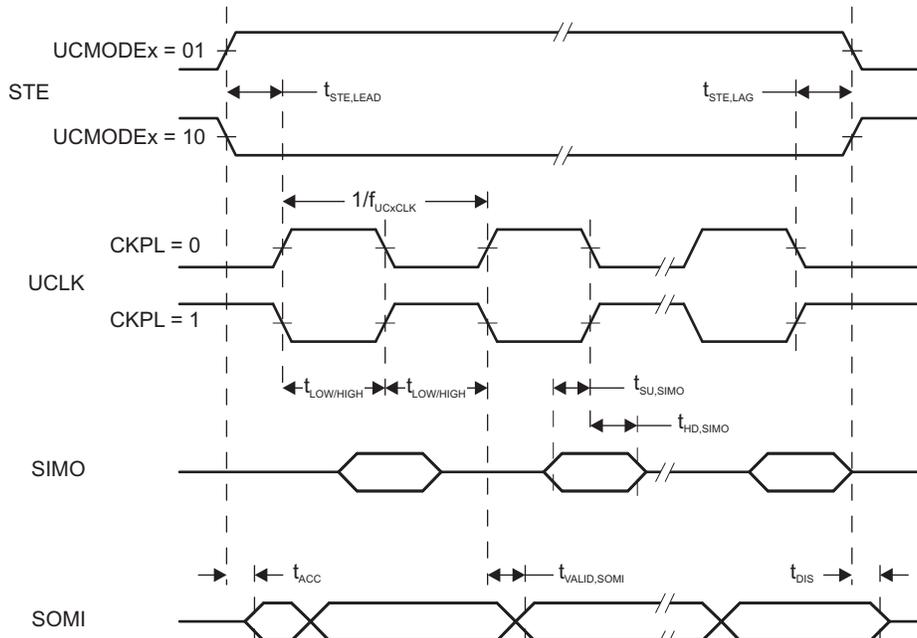
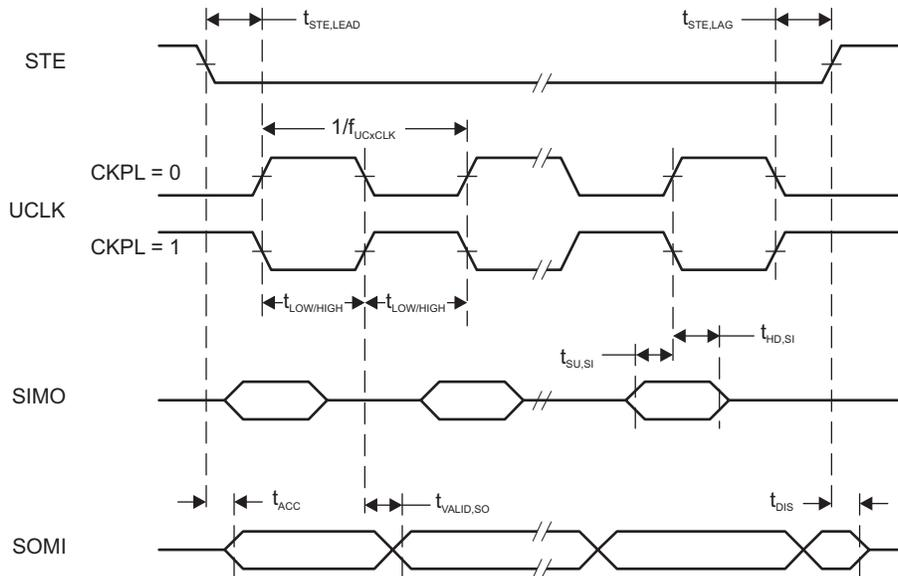

图 5-8. SPI Slave Mode, CKPH = 0
图 5-9. SPI Slave Mode, CKPH = 1
- (2) Specifies the time to drive the next valid data to the SOMI output after the output changing UCLK clock edge. See the timing diagrams in 图 5-8 and 图 5-9.
- (3) Specifies how long data on the SOMI output is valid after the output changing UCLK clock edge. See the timing diagrams in 图 5-8 and 图 5-9.